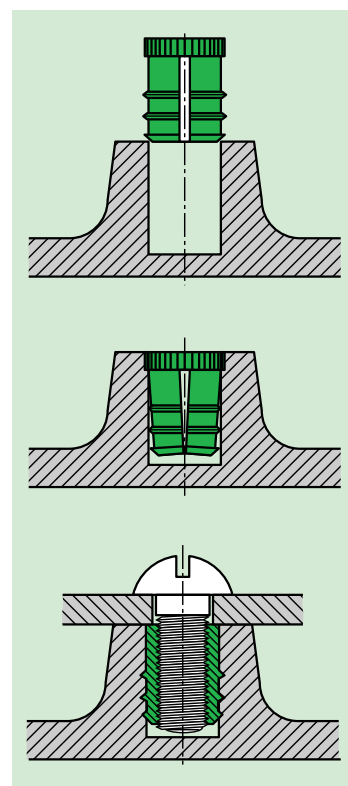

Fig. 19
1. The B-Lok® is pressed into the receiving hole, during which process the segments bend inwards (fig. 19).
2. When inserting the screw, the segments resume their original shape, in which process the external profile becomes anchored in the hole wall. The residual tension acts to lock the screw in place (fig. 19).